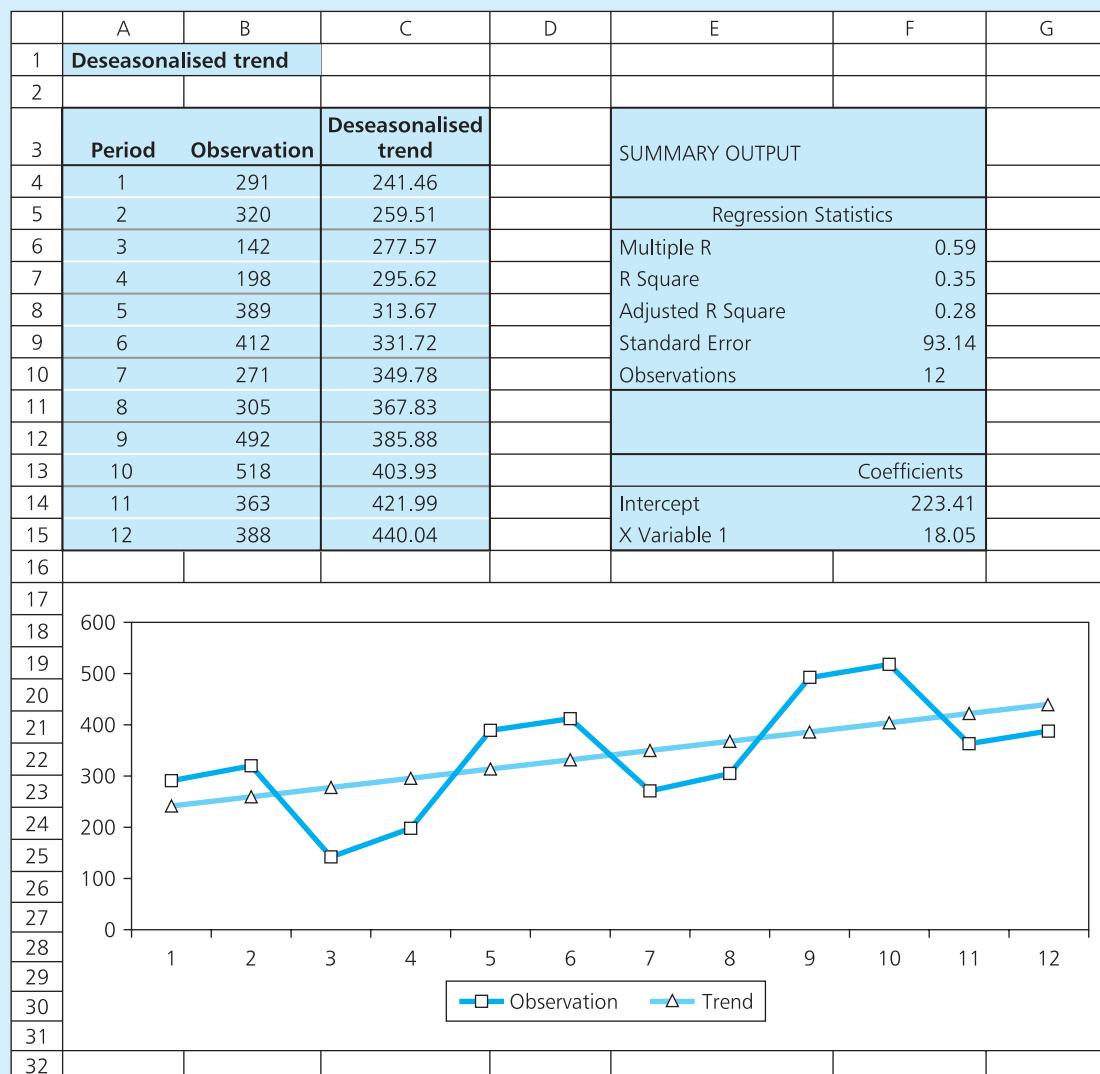

Figure 10.9 Deseasonalising data with linear regression
- (a) Figure 10.9 shows a spreadsheet that finds the line of best fit – which is the deseasonalised trend line – as:
- (b) You can see from Figure 10.9 that the observations have a clear season of four periods, so we can deseasonalise them using a four-period moving average. But there is an immediate problem. The average values occur at average times, and taking the first four periods gives
that are more reliable. You can see from the graphs in Figures 10.9 and 10.10 that there are clearly four periods in a season – so you need to calculate four seasonal indices. Then periods 1, 5 and 9 are the first periods in consecutive seasons, and you can find an average index of $(1.205 + 1.240 + 1.275)/3 = 1.240$. Then periods 2, 6 and 10 are the second periods in consecutive seasons, and so on, so you can find the average indices for all periods in a season: